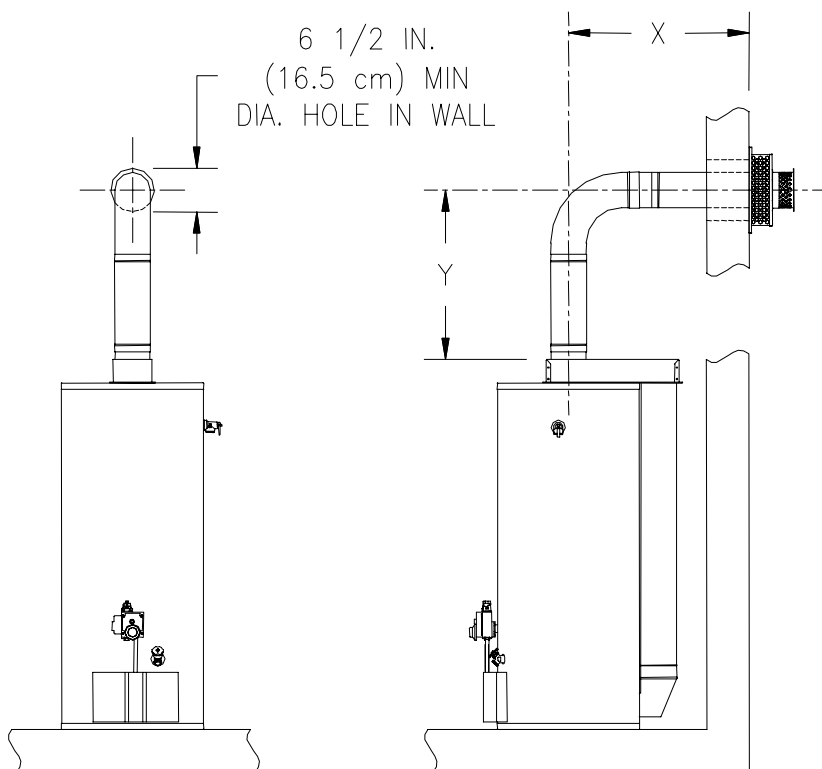

Figure 1
1. Measure the vertical height "Y" required in your installation. (See Figure 1). Reference the appropriate Table A to determine number of vent-air intake kits required in your installation.
2. Measure the horizontal length "X" required in your installation (See Figure 1). Reference Table A to determine number of vent-air intake kits required in your installation.